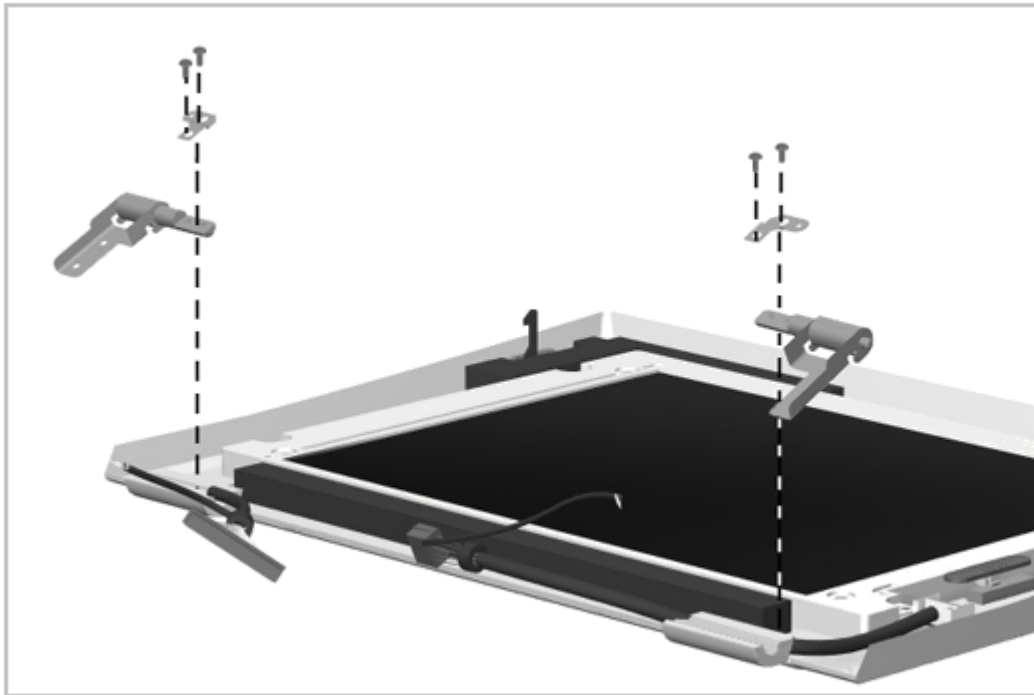

Figure 5-34. Removing the Clutch Assembly and Bracket
3. Remove the screws holding the clutch assembly and bracket to the display housing (Figure 5-34), and remove the clutch assembly and bracket.